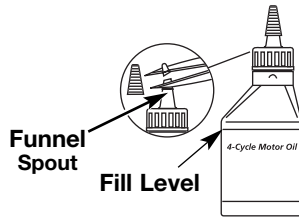

Fig. 10
Your unit is supplied with one 3.04 fluid oz. (90 ml.) bottle of SAE 30 SF, SG, SH oil (Fig. 10).
NOTE: Save the bottle of oil. It can be used to measure the correct amount during future oil changes (Fig. 10). See *Changing the Oil*.
1. Unscrew the top of the bottle of oil and remove the paper seal covering the opening. Replace the top. Next, cut the tip off the funnel spout (Fig. 10).